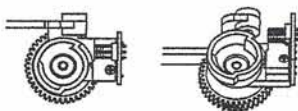

Figure 1
2. Make sure the switch cam is with the service mark (an arrow) in front (Figure 1); the upper micro-switch should be deactivated by the service opening on the upper part of the switch cam. If this is not the case, (1) Loosen the locking screw from the switch cam, (2) Turn the switch cam to the right, to the correct position and (3) Secure the locking screw.